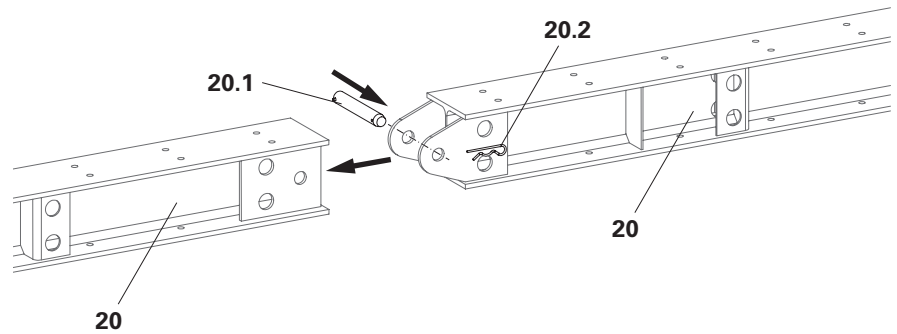

Fig. A6.10
3. Depending on the length, connect and secure base beam with bolts and cotter pins (**20.1 + 20.2**). (Fig. A6.10)